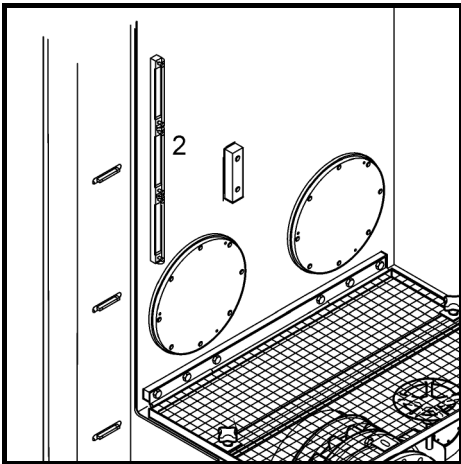

Fig. 7
In this position, the oil level should not be below the centre of the sight gauge (Fig. 7, pos. 2). If the oil level is low, add oil via the return filter until the oil level reaches the centre mark.